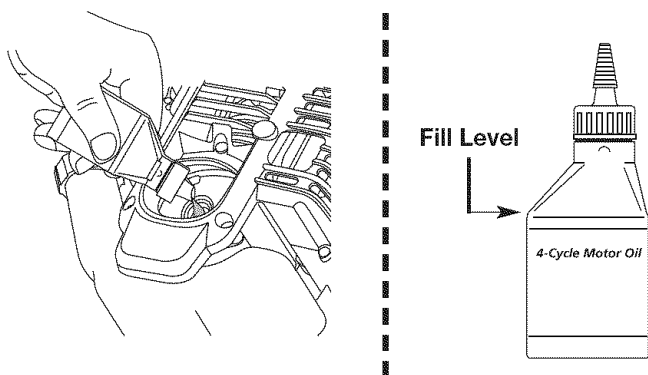

Fig. 23
NOTE: Use the bottle and spout saved from initial use to measure the correct amount of oil. The top of the label on the bottle measures approximately 3.04 ounces (90 ml) (Fig. 23). Check the level, See Checking the Oil Level. If the level is low, add a small amount of oil and recheck. Do not overfill (Fig. 23).
2. Remove the air filter (Fig. 23).